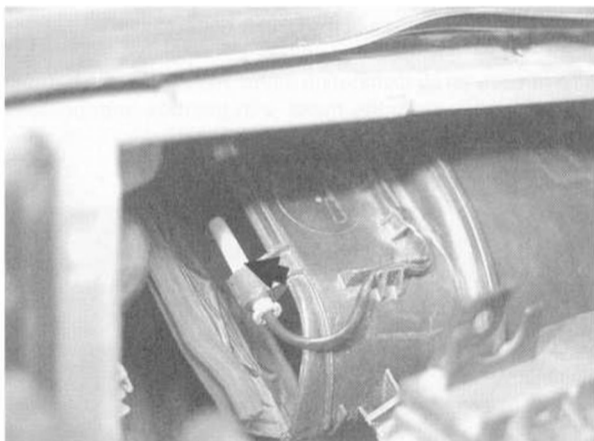

Fig. 12. Outside temperature sensor (arrow) in blower sensor out of housing to remove.
5. Slide outside temperature sensor out of blower housing. See Fig. 12.